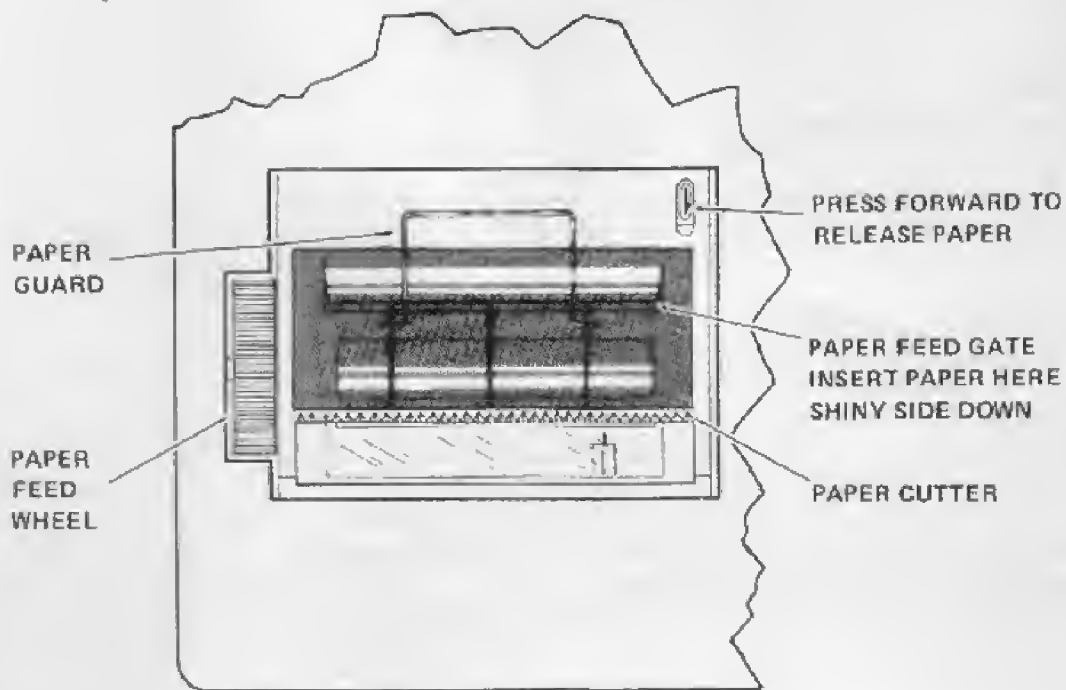

Figure 2. Detail of paper motion mechanism.
3. Unroll about six inches of paper, and guide the leading edge of the paper over the tension bar and down into the feed gate (Figure 2). Rotate the paper-feed wheel until the paper comes up behind the print mechanism and the paper cutter edge.